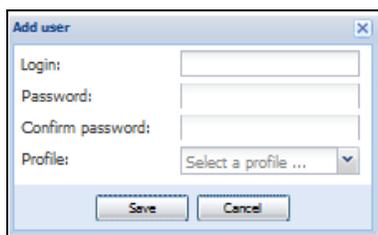

Figure 17. Add User Dialog Box
3. Type the user's login and the user's password (see Figure 17).